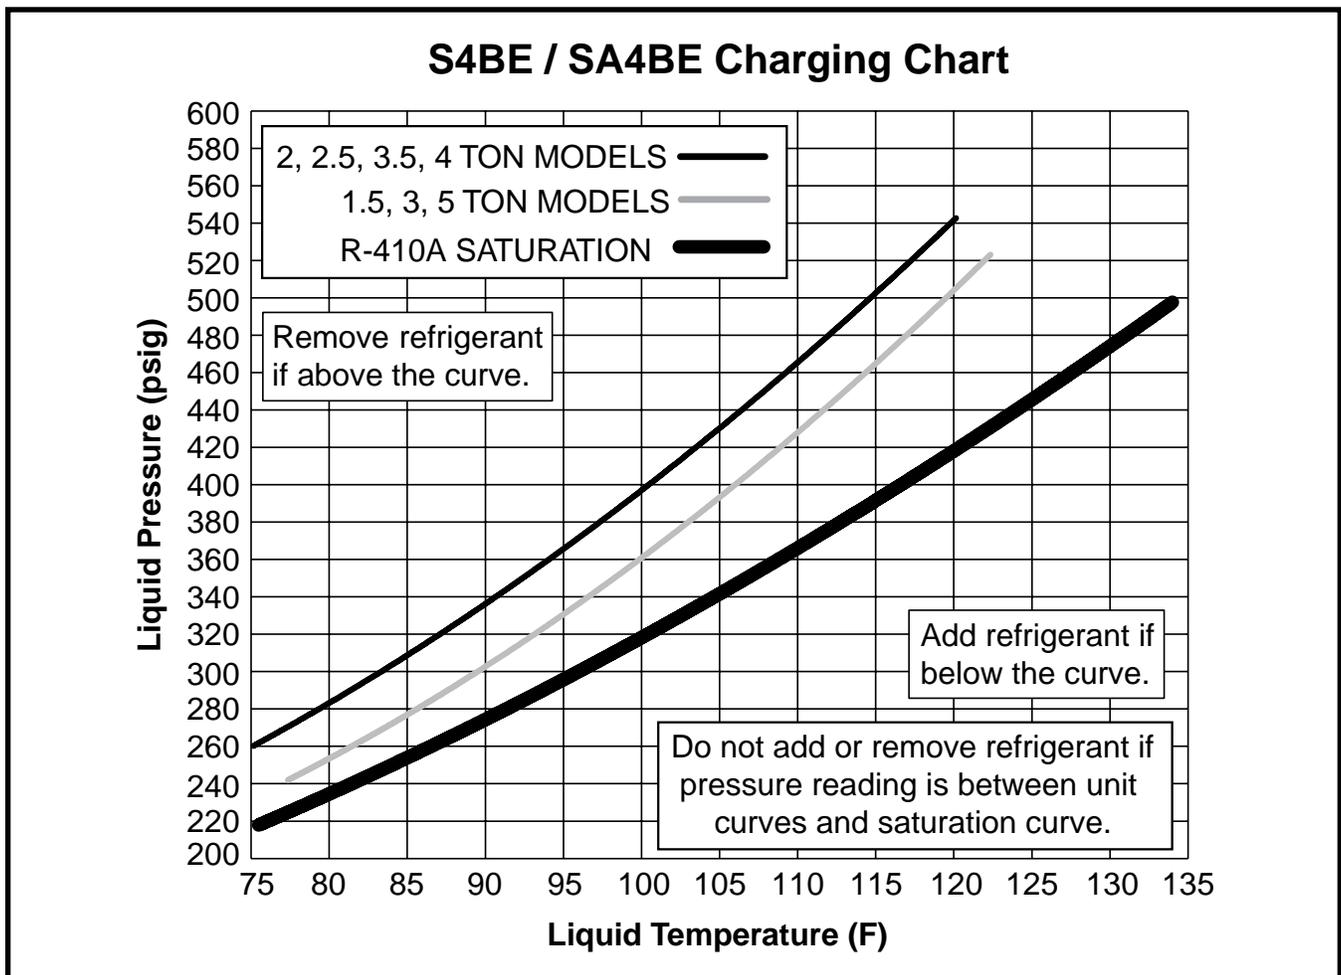

Figure 3. Charging Chart for S4BE-024-060 Series (2 - 5 Ton Units) - TXV Matches
- Refrigerant charging charts are applicable only to matched assemblies of NORDYNE equipment and listed airflows for the indoor coil. Refer to Figure 3 (page 8) for correct system charging.
3. Determine the required liquid refrigerant pressure from the charging chart (Figure 3, page 8).
As shown in Figure 3 (page 8), the ideal system sub-cooling can vary over the range of operation. Reference the charts to determine the ideal amount of sub-cooling for a given liquid pressure. Units charged to other values will not perform at the rated unit efficiency (EER) or rated Coefficient of Performance (COP) in heating mode.